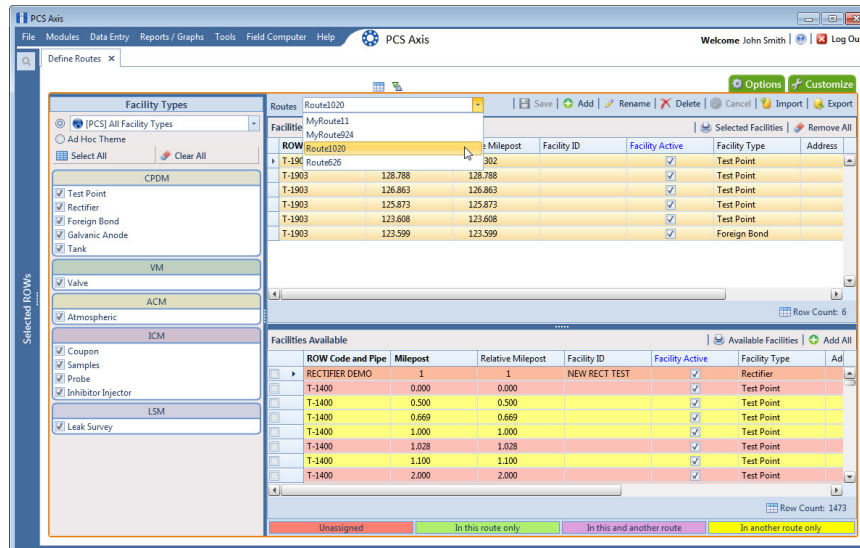

Figure 8-75. Define Routes
- Click **Data Entry > Define Routes** to open the *Define Routes* window. Click the down arrow in the **Routes** field and select a route in the list (Figure 8-75).